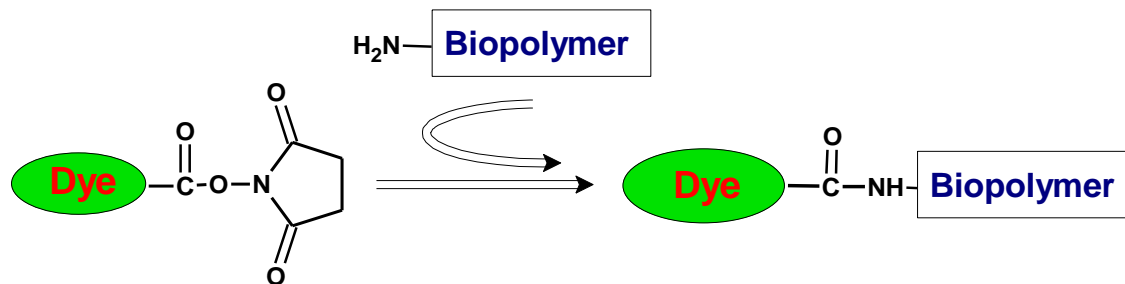

Figure 1. Labeling of an amino group (for instance, a lysine) on a biopolymer (i.e., a protein) with a succinimidyl ester of a dye.
The AnaTag™ 5-TAMRA Protein Labeling Kit provides a convenient way to label proteins by using the succinimidyl ester (SE) reactive form of 5-TAMRA. Succinimidyl ester shows good reactivity and selectivity with aliphatic amines of the protein and forms a carboxamide bond, which is identical to, and is as stable as the natural peptide bond (Figure 1). 5-TAMRA is one of the most popular orange fluorophores used to label proteins. 5-TAMRA is the purified single isomer of 5-(and 6)-TAMRA that provides reproducibility for critical biological applications and avoids the inconsistency brought by minor positional difference between 5-TAMRA and 6-TAMRA. The 5-TAMRA-protein conjugates are very stable and suitable for immunofluorescent staining, fluorescence *in situ* hybridization, flow cytometry and other biological applications.